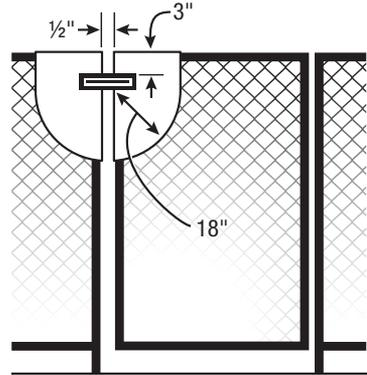

Figure 13
- (b) the gate and barrier should have no opening greater than **½ inch within 18 inches** of the release mechanism (figure 13).